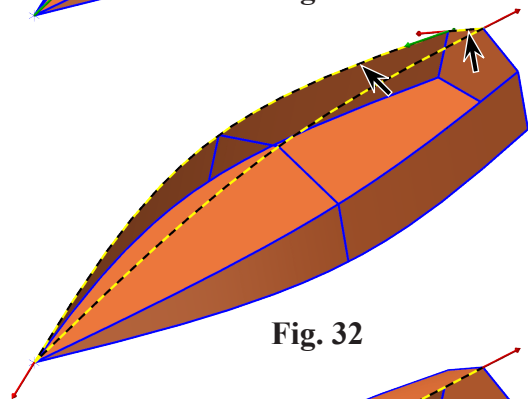

Fig. 32
Step 4. Walk Chain around the rear and side spline in direction of Chain arrows, **Fig. 32**.